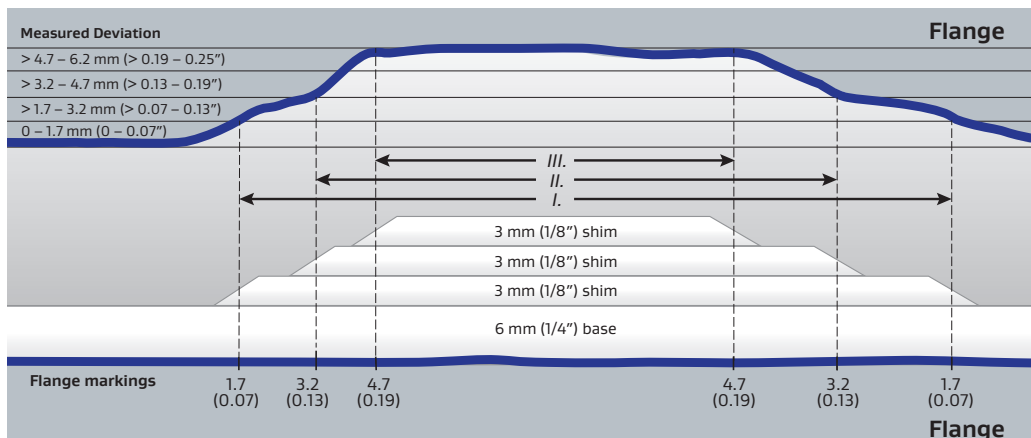

FIGURE 6. Flange deviation example with 6 mm (1/4") base tape
Measure and mark flange surface deviation around full flange circumference to within ± 0.1 mm, for use in selection of gasket thickness (Section 1.4) and shimming requirements (Section 1.5). Figure 6 illustrates an example of completed flange deviation markings and associated shimming.
Place a separator between the flanges to avoid glass-to-glass contact while measuring flange deviation. Separator material must be flat and uniform thickness, non-compressible under the weight of the top flange placement, and thin / flexible enough to conform to bottom flange deviations during measurement (example: fiber board). Close and align the flanges without compressive load beyond equipment weight. Around the entire flange circumference, use a feeler gauge to measure the deviation between the top / removable flange and the non-compressible separator, to an accuracy of ± 0.1 mm (± 0.01 ""). It may be necessary to carefully manipulate the separator with the feeler gauge, so that all flange deviation can be measured from one side of the separator. On the stationary / bottom flange, mark all start and end points where the prescribed thickness of feeler gauge could be inserted. Refer to required tools for specific feeler gauge requirements. Refer to Table 2 and Figure 6 for additional detail, based on use of a 6mm base layer. Be sure to mark a flange reference mark on both flanges to allow for flange realignment at assembly. Remove separator.
Using the markings on the flange of irregularities measured in Section 1.2, use the 3 mm (1/8") GORE® Series 1000 shim tape to perform the following shimming process. See example irregularities (I), (II) and (III) and associated flange markings in Figure 6.
- Start the shim layer by placing the skive cut tape end on the previous layer of gasket tape, with the skive ramp centered on the beginning deviation mark on the flange. See Figure 6.
- Skive cut the second end of the already placed shim layer per Section 2.3, with the skive ramp centered on the ending deviation mark on the flange. See Figure 6. Be sure to remove the excess shim tape beyond the outside of the skive cut.